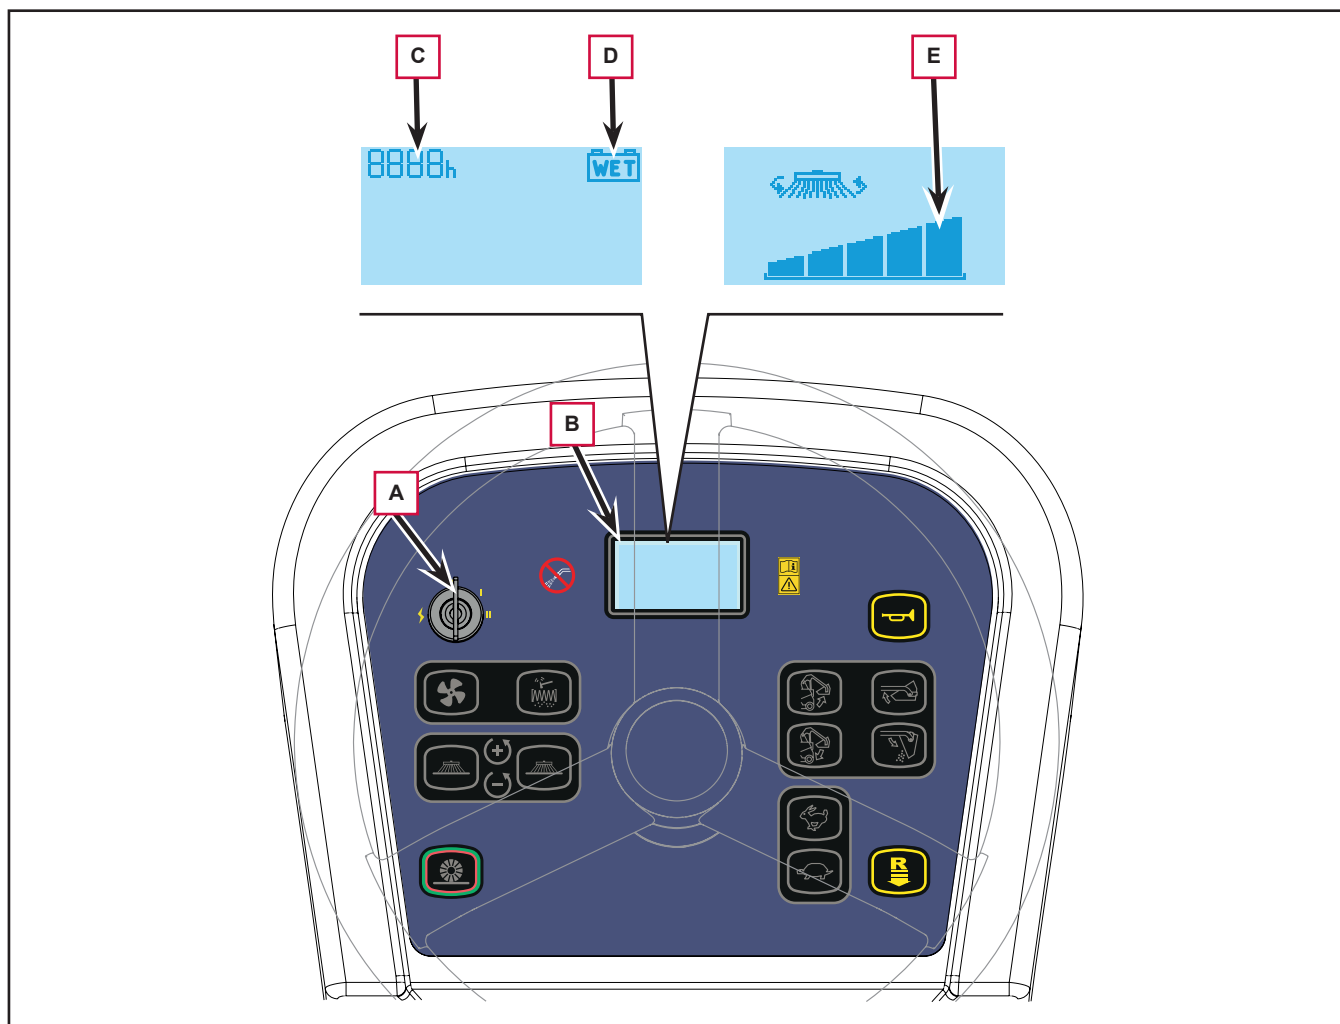

Figure 8
1. Start the machine with the ignition key (A, Figure 8).
2. In the first two seconds after ignition, the multifunction display (B) will indicate:
- The hours the machine has worked (C)
- The type of batteries set (D)
- The current machine maximum speed setting (E)
3. After two seconds have passed, it is possible to view the charge level of the batteries on the same icon (D) for the battery type set.